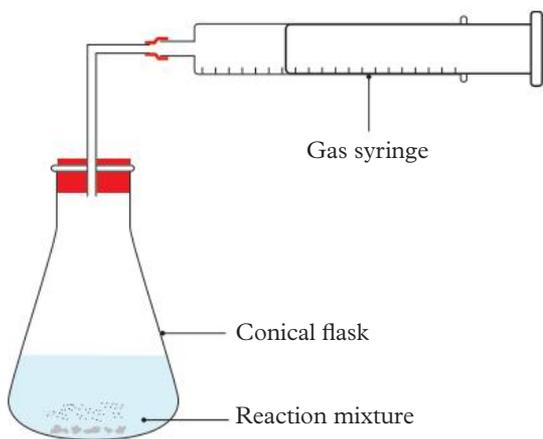

FIGURE 1 The experimental set-up for measuring the volume of a gas produced in a chemical reaction
- 1 Assemble the apparatus in Figure 1 and place the conical flask on the heatproof mat. Make sure that the gas syringe is pushed in all the way before beginning the experiment.